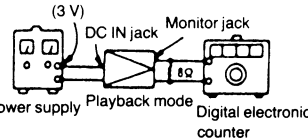

Fig. 2
(B) Tape speed adjustment Condition: • Playback mode Equipment: • DC power supply • Digital electronic counter • Test tape ... QZZMWA for 2.4 cm/s	<ol style="list-style-type: none"> 1. Test equipment connection is shown in Fig. 2. 2. Apply 3 V to DC IN. 3. Connect the monitor output (8Ω) to the counter. 4. Playback the tape speed adjusting tape (for 2.4 cm/s 3 kHz. QZZMWA). 5. Measure this frequency. <div style="border: 1px solid black; padding: 5px; text-align: center;"> Standard value: 2970 ± 20 Hz (2.4 cm/s) (ambient temperature: 10 °C ~ 30 °C) </div> <ol style="list-style-type: none"> 6. If measured value is not within standard, adjust as follows. <ul style="list-style-type: none"> • 2.4 cm/s adjustment 1. Set the tape speed selector switch to 2.4 cm/s. 2. Adjust tape speed adjustment VR2 (Refer to Fig. 3) so that frequency is 2970 ± 20 Hz.